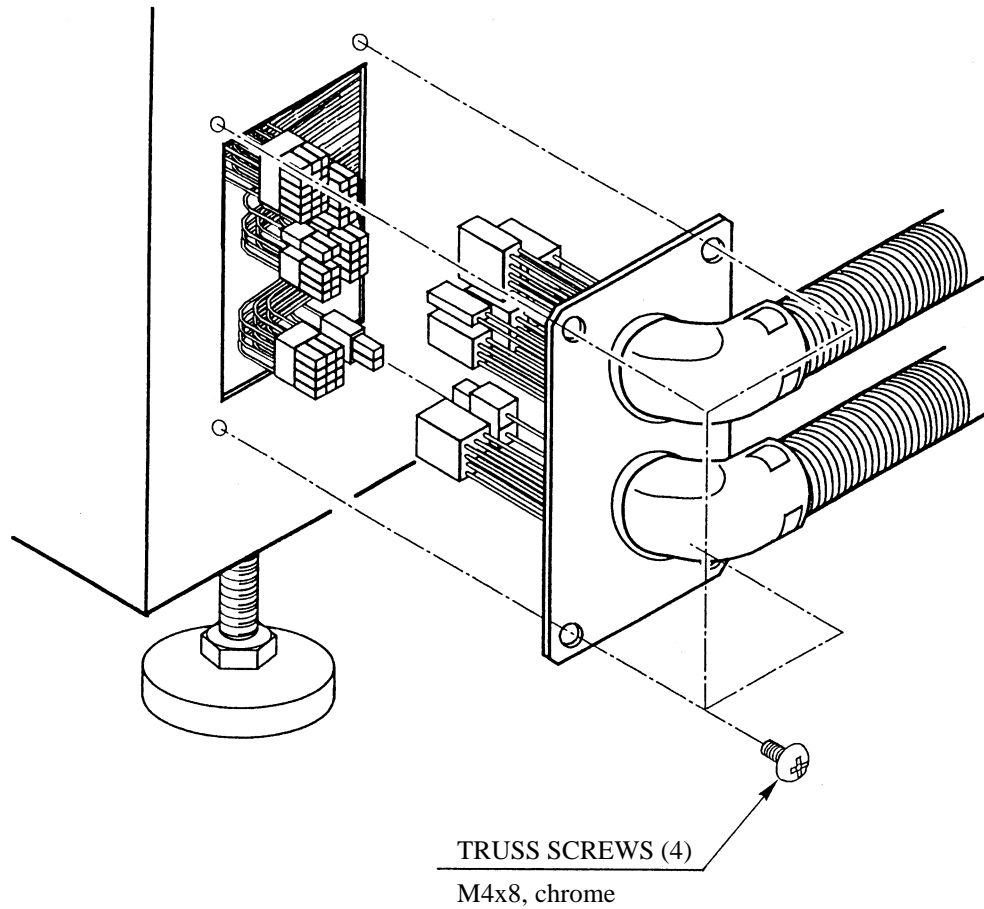

Fig. 4.2c
- ③ Connect all of the Rear Cabinet side Wiring Connectors and ASSY Tube Wiring Connectors. Ensure that connectors of identical color and number of pins are connected with each other.
- ④ By using the 4 screws, secure the ASSY Tube Plate parts to the Rear Cabinet. At this time, use care so that wirings are not caught and damaged. (Fig. 4.2c)